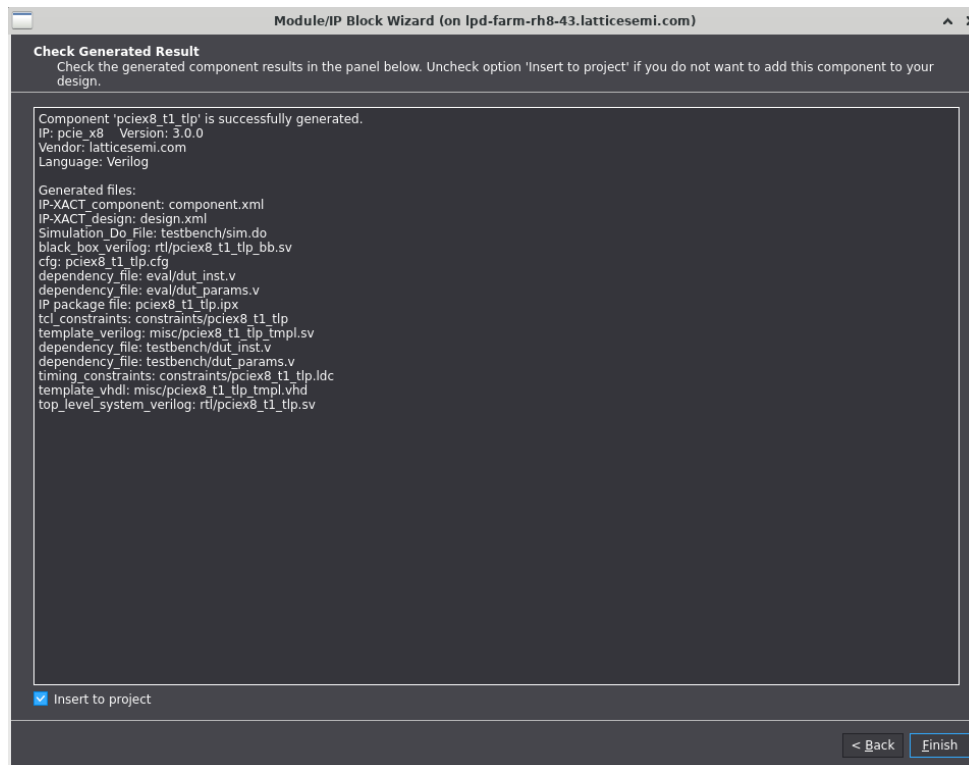

Figure 7.7. Check Generated Result
- Click **Generate**. The **Check Generated Result** dialog box opens, showing design block messages and results as shown in Figure 7.7.